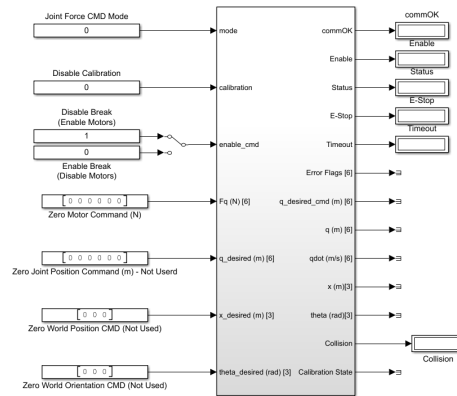

Figure 2.12: Simulink model used to disengage brakes on the Hexapod using QUARC
The Hexapod2\_Controller\_Brake\_Bypass model, shown in Figure 2.12 allows the joints to be moved manually. The amplifier drives are enabled and the brake system is disabled when the Digital Output Channels #12 and #13 are set to 0 and 1, respectively. The amplifiers are disabled when the DO #12 and #13 are both set to 1. The joints can
3. Open the Simulink model called Hexapod2\_Controller\_Brake\_Bypass, shown in Figure 2.12.